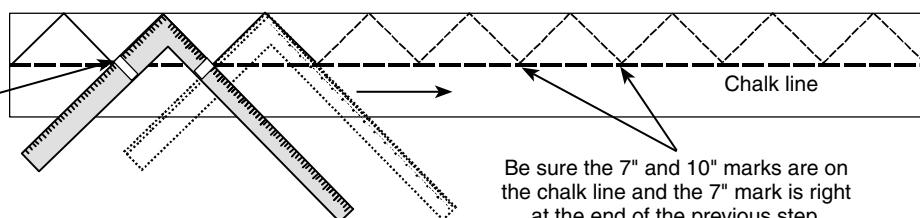

Figure 16-7
- Lay out the stair stringer shape on a 2 x 12. You'll need two 2 x 12s per stairway. On wide stairways, you may need three. How long should the stringers be? To figure this out, you must know how many steps there will be in the stairway. That method was explained previously. Standard step stringer cutouts are 7 inches high (the rise) and 10 inches deep (the run). Looking at Figure 16-7, you'll see that each 7- x 10-inch step is laid out horizontally on the 2 x 12 (so each one really forms a triangle). Thus, each step laid down on the chalkline takes up a little over $13\frac{1}{2}$ inches of length on the 2 x 12. Once you know how many steps you need, multiply the number of steps by $13\frac{5}{8}$ inches to get the total length of each 2 x 12 needed for the stringers.
- Laying out the triangles is quite simple. You know that each step will be 7 x 10 inches. Put pieces of masking tape on your square, and mark them at 7 inches on one leg of the square and 10 inches on the other. That saves you from having to keep looking for the tiny lines on the square, once you get going. Now, starting at one end of the 2 x 12, line up the masking tape marks on the square with the chalkline. Look back at Figure 16-7 to see clearly where and how to start this step layout.